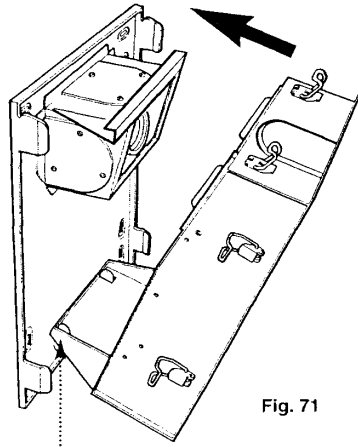

Fig. 71
2. Swing the top of the combustion box backwards against the top air box (Fig. 71).